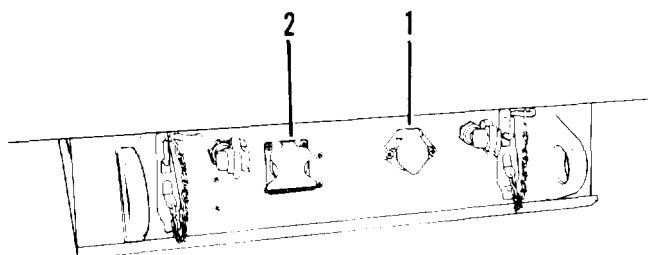

Figure 2-4. Intervehicular cable receptacles
a. Used for connecting 12 volt (1, figure 2-4) or 24 volt (2) electrical power from towing vehicle to semitrailer.